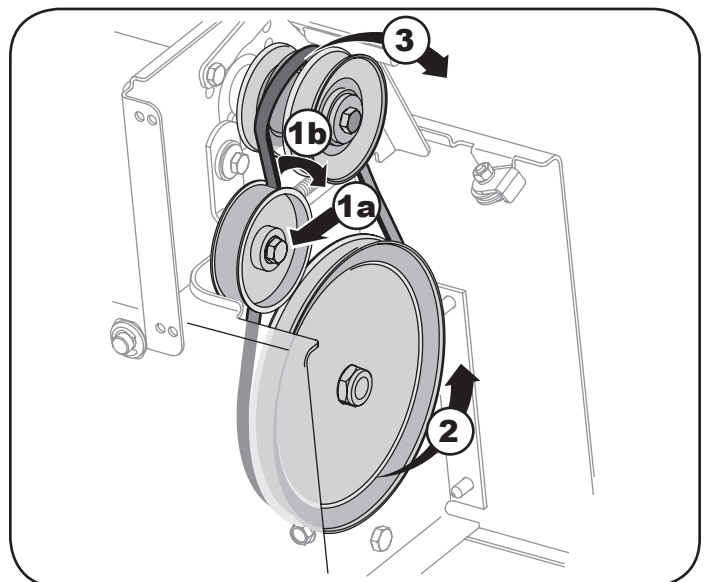

Figure 29
- a. Pull the idler pulley away from the backside of the drive belt to relieve the tension. See Figure 29.